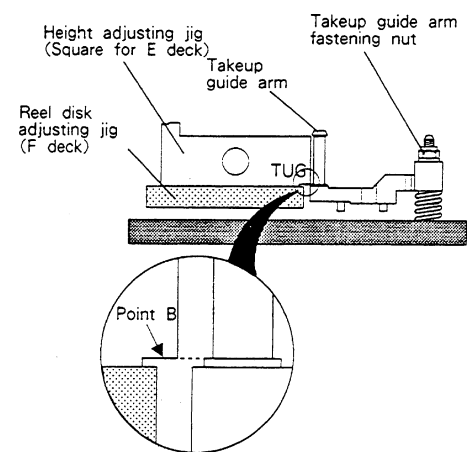

Fig. 2-13-2
- takeup guide arm fastening nut so that the lower flange of the takeup guide arm is level with point B of the height adjusting jig (for the E deck). (Refer to Fig. 2-13-2.)